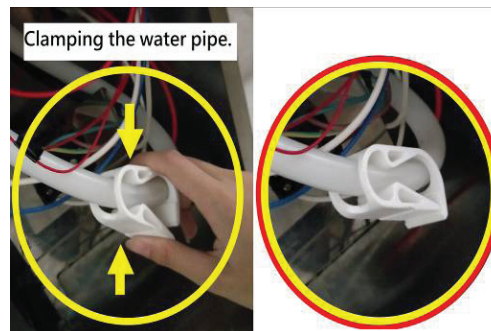

Figure 2
4. Fasten the white shutoff clamp at the end of the drain hose. (Figure 2)